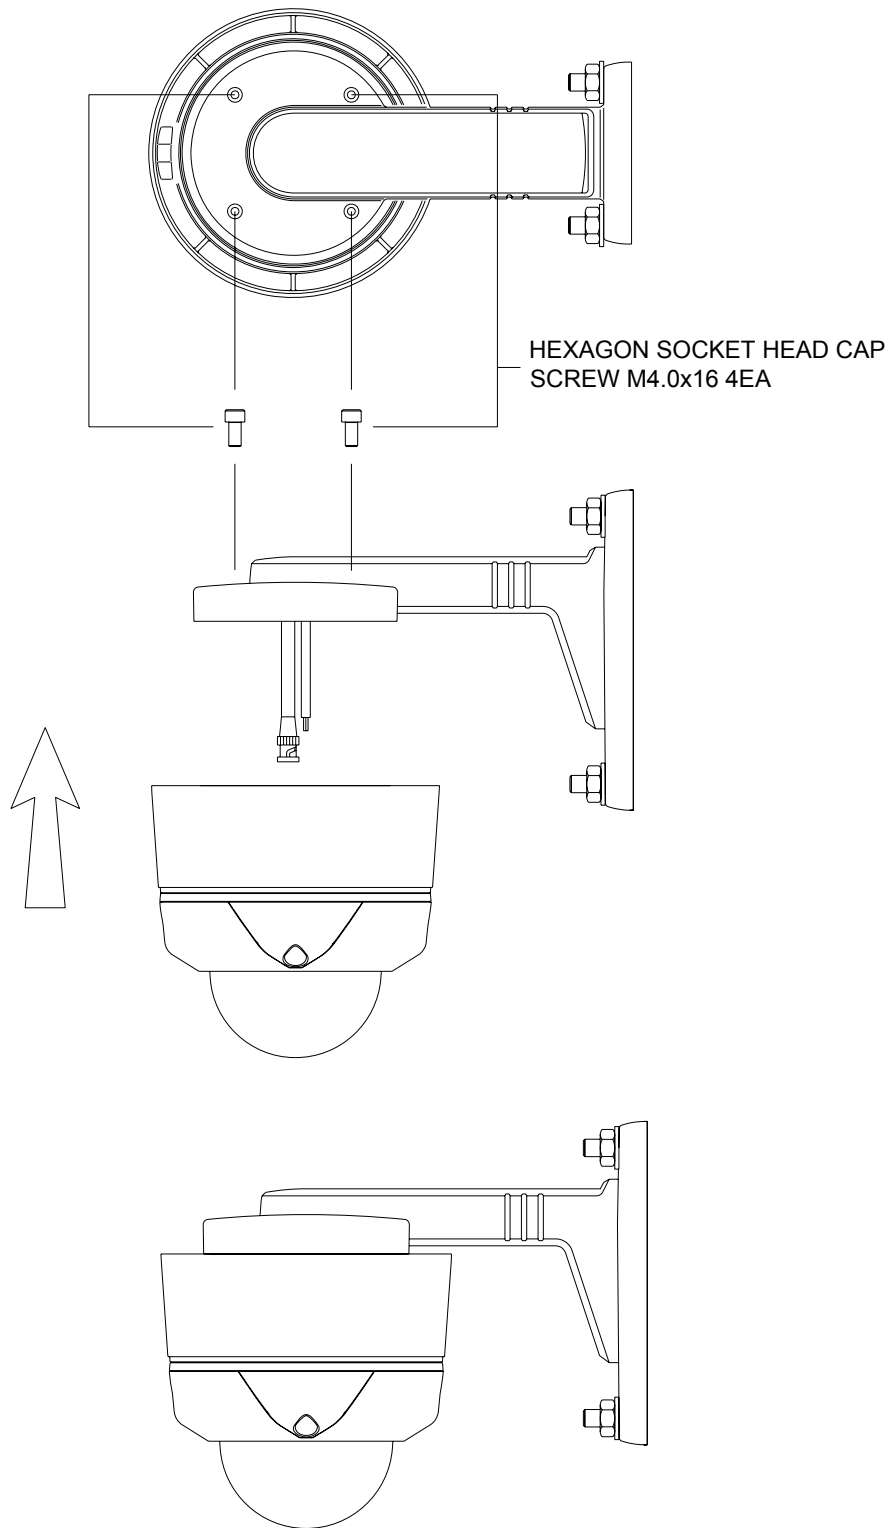

FIG.19
4. Assemble a wall mount bracket and camera by Hexagon socket head cap screws (M4.0X16) (FIG.19)